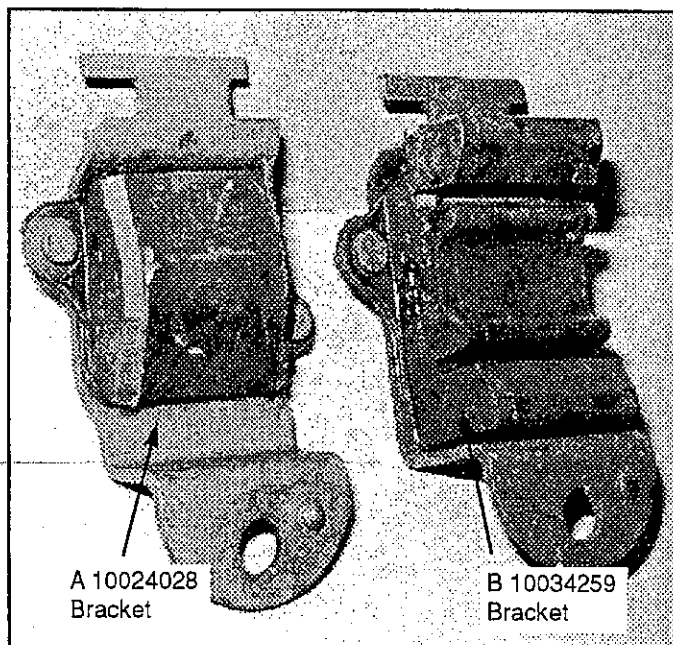
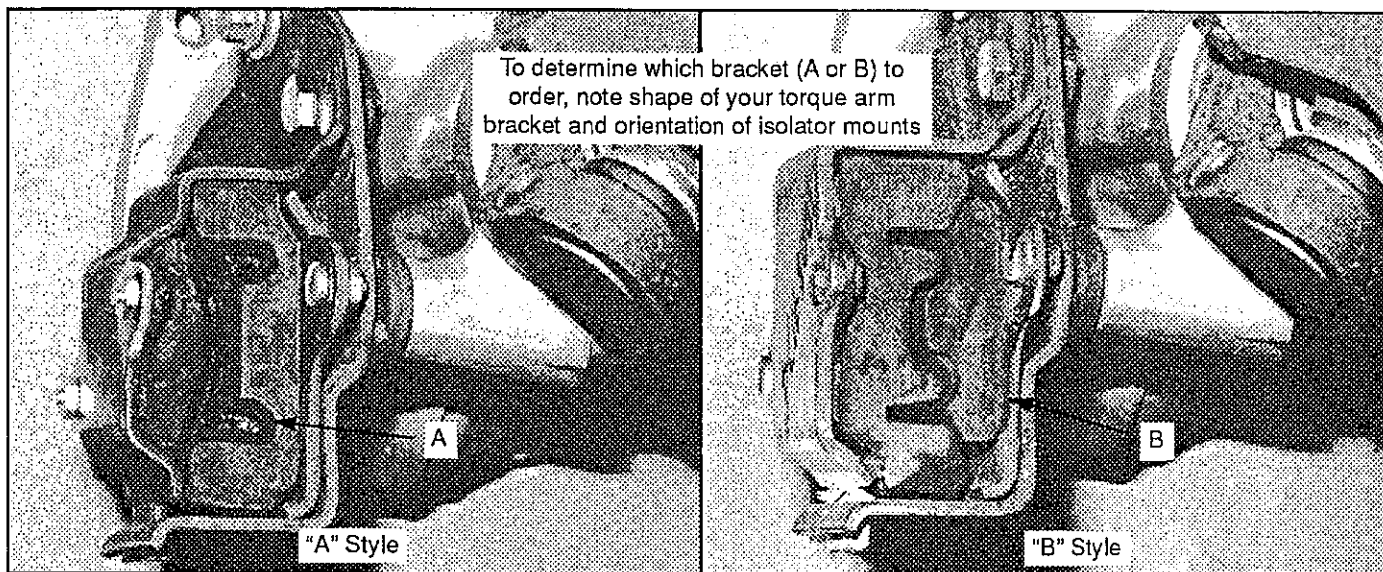
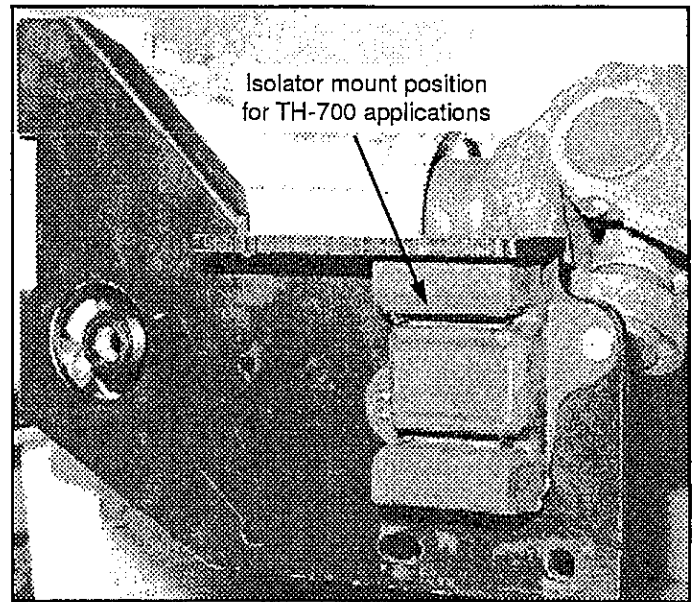

Figure 1A
Figure 1B
Figure 6
B. TH-700 Applications. Refer to Fig. 1B to determine which style outer torque arm bracket you have, "A" or "B". The outer arm brackets are not interchangeable because of the isolator's shape. Once you have determined which outer bracket is required, Order the GM part number shown in Fig. 1A (GM #10024028 for type "A" or GM #10034259 for type "B"). Remove the isolator mount from the inner torque arm mount and attach it to the B&M torque arm mount in the position shown in Fig. 6. The new GM outer bracket comes with the isolator mount already attached.